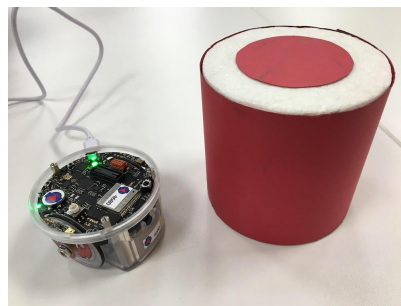

Figure 1. The e-puck2 robot and the object to be chased as part of Task 2. The object has a height of 10 cm and a diameter of 10 cm. Image reprinted from [1].
- to chase an object in an open environment that is free of obstacles (see Figure 1);
- The object to be chased in Task 2 is shown in Figure 1. When conducting a trial for Task 2, the robot may be placed on the desk (to offer more space) provided it is carefully monitored at all times to prevent it from falling onto the floor. At any other time (e.g. while programming) the robot must remain within its bounded environment.
25	<p>General writing quality & formatting (10) Presentation quality of report (excluding appendix). Organisation (title, author name, affiliation, abstract, structure (sections and paragraphs), figures or tables where relevant); writing quality and clarity (clear and concise language, grammar, no typos, no ambiguous/informal expressions, no inconsistencies etc); adhering to standard conventions (figures/tables with captions and all cited in text [e.g. “Figure 1 shows... ”], abbreviations defined when first used); use of external images acknowledged in captions (e.g. “Image reprinted from [x]”).</p> <p>Abstract (5) Motivating sentence, providing some context. Stating the problem that is</p>